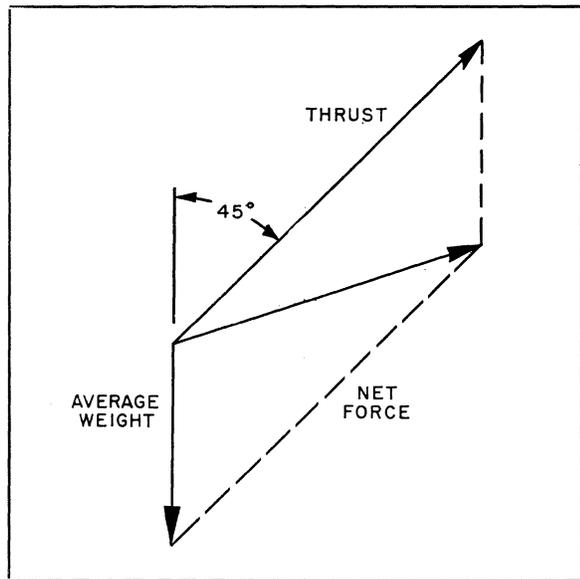

FIG. NO. 34
49. On May 5, 1961, Commander Alan B. Shepard, Jr., became the first American to pierce the space barrier. At lift-off, the weight of the complete Redstone Mercury was 66,000 pounds. The missile had a thrust of 78,000 pounds, and would deliver power for 2.5 minutes, consuming 50,000 pounds of fuel. See Fig. No. 34.